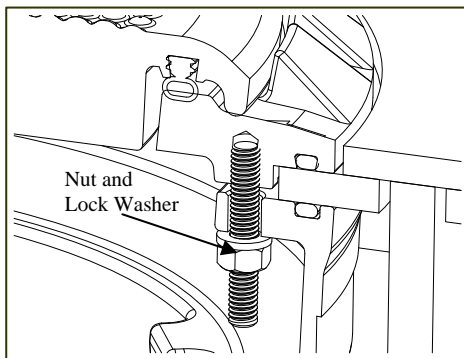

Figure 5
16. Thread nut and lock washer onto studded mounting ring. Tighten the mounting ring retaining bolts until the containment bucket o-rings makes contact with the multi-port cover. Then, in a crossing pattern, torque the bolts down between 15 to 20 ft.-lbs. 6 Point Ratcheting box wrench is recommended (See Figure 5.)